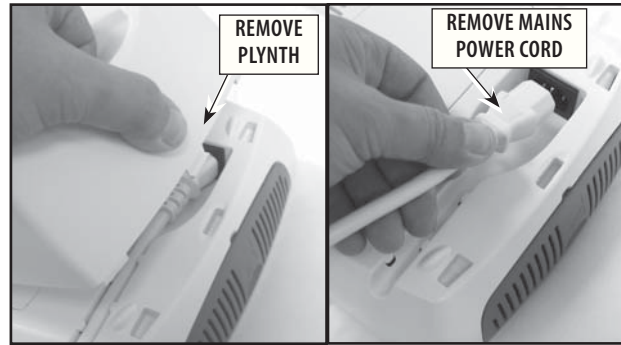

FIGURE 6.1
1. Remove the Plynth from the bottom of the system. **Refer to Figure 6.1.**
2. Remove the Mains Power cord from the system. **Refer to Figure 6.1.**